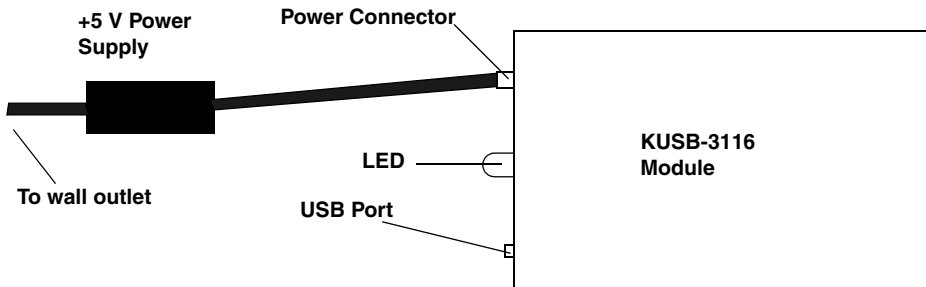

Figure 2: Attaching a +5 V Power Supply to the Module
1. Connect the +5 V power supply to the power connector on the KUSB-3116 module. Refer to Figure 2.